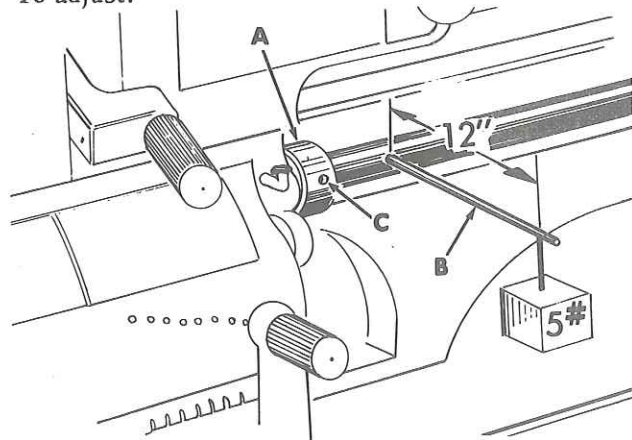

Figure 20
1. Insert $\frac{1}{4}$ " rod (B, fig. 20) in the hole in lead screw near clutch.
3. While holding quadrant gears, insert $\frac{1}{8}$ " rod in hole (C) and tighten collar (A) until clutch is properly adjusted.